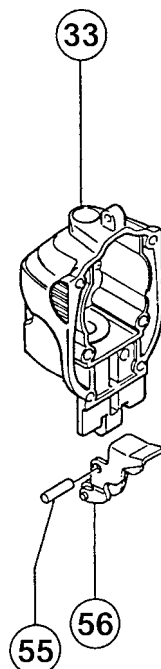

Fig. 7
- (5) Disassembly of the Guide Roller [56] from the Upper Cover [33] (Fig. 7)